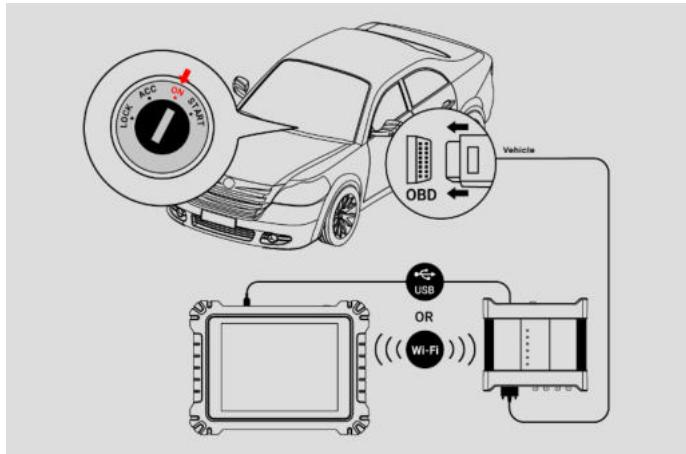

Figure 7-1 Sample Connection Diagram
1. Please refer to *Figure 7-1 Sample Connection Diagram* to complete the connection. Place the ignition in the key on position.